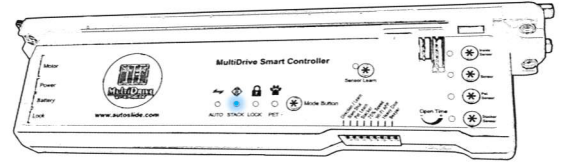

Figure 54: Controller in Blue/Stack mode.
1. From Green Mode, press the mode button (on either the control panel or mode pad) one time to place the unit into **Blue/Stacker Mode** like in Figure 54.